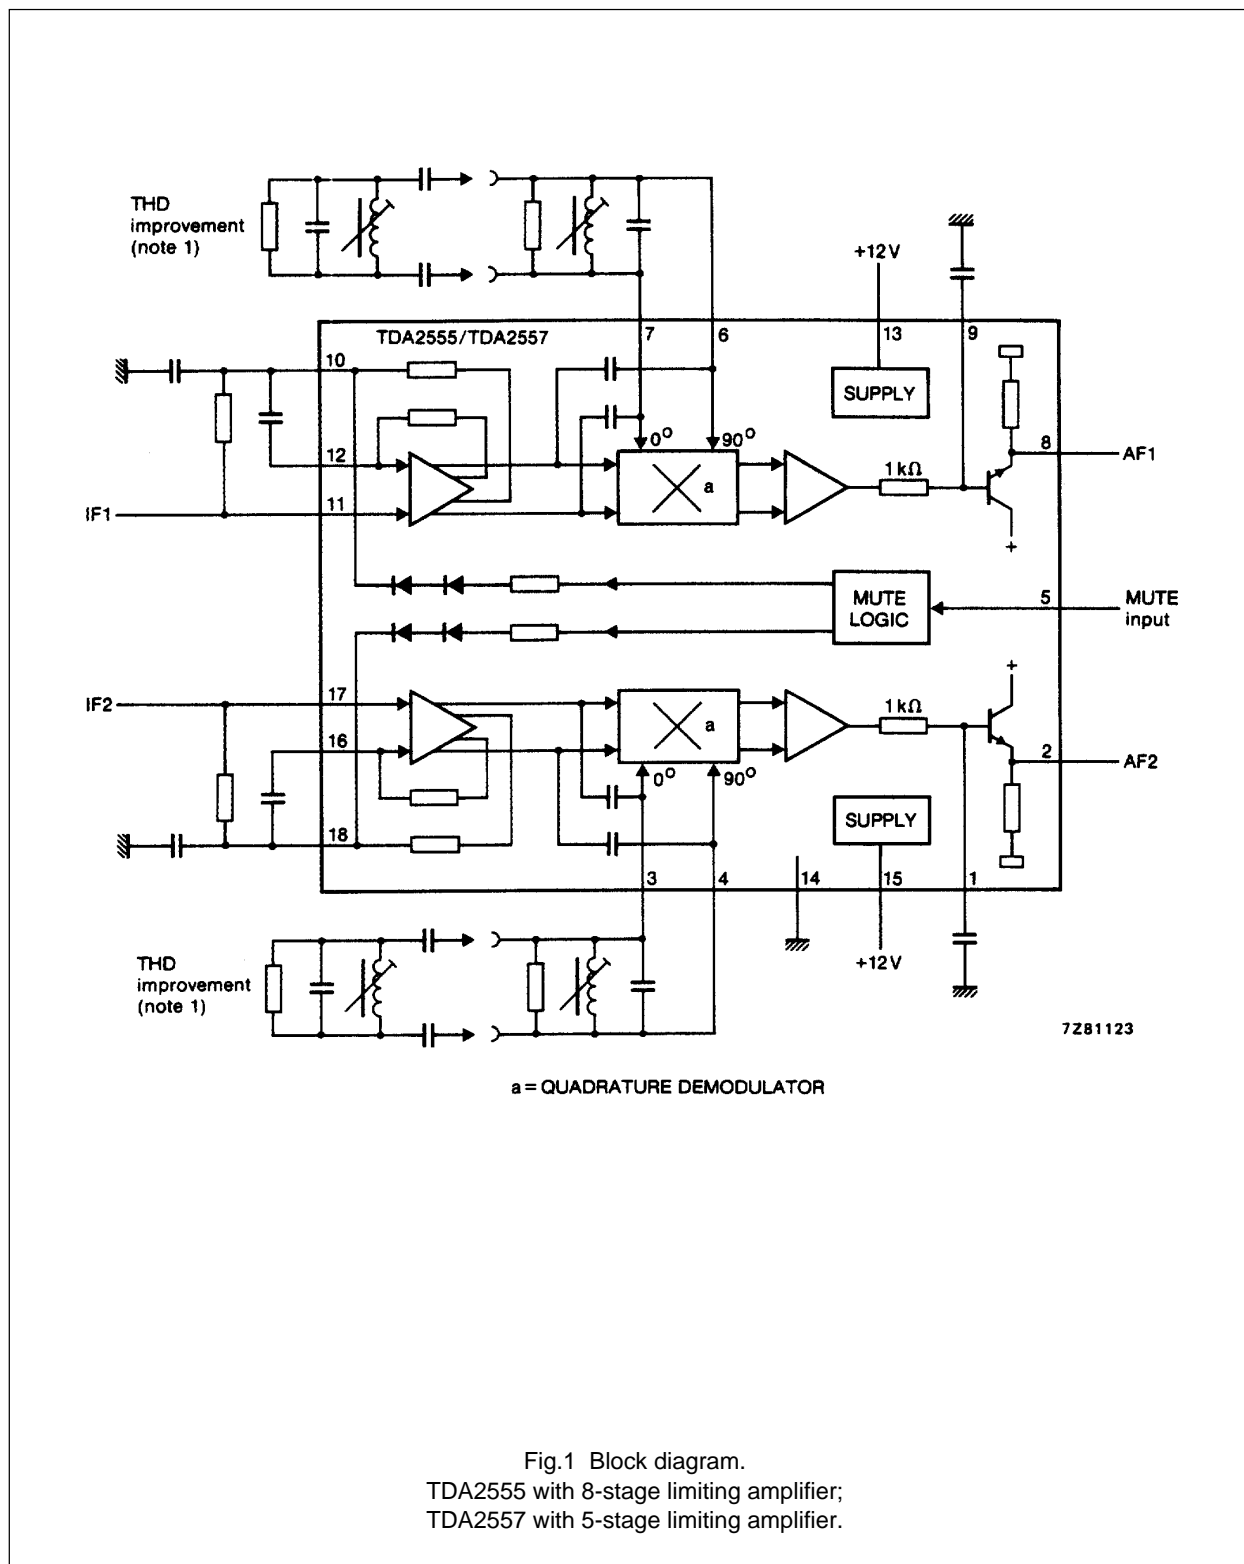
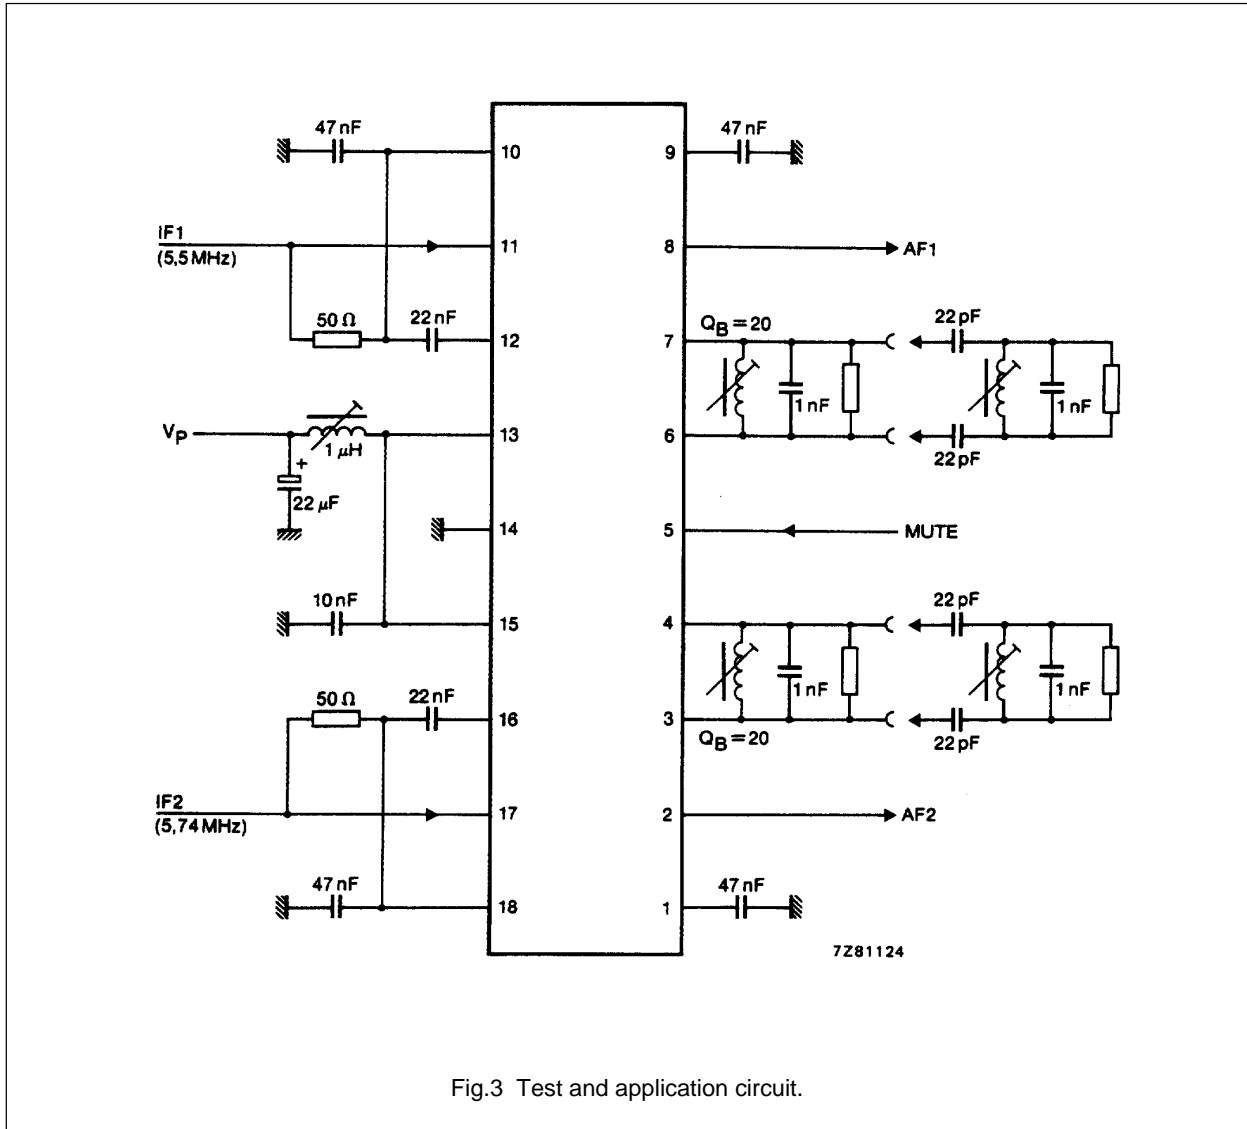

Fig.1 Block diagram.
Fig.3 Test and application circuit.
see test circuit Fig.3, voltages with respect to ground (pin 14), unless otherwise specified.
- THD < 0,1% requires a double tuned demodulator circuit ( $Q_L = 20$ ). With a single tuned circuit a THD of < 0,5% is possible (see Fig.1 and Fig.3).